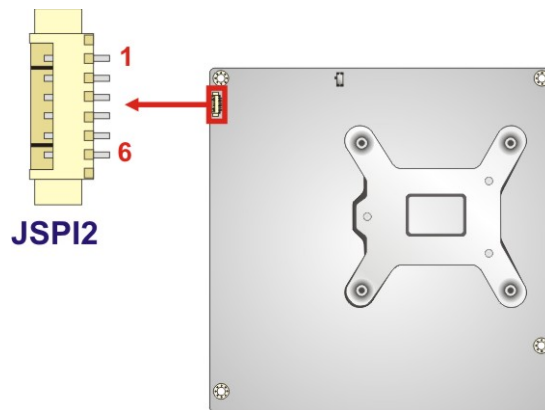

Figure 3-26: SPI EC Flash Connector Location
- CN Location:** See **Figure 3-26**